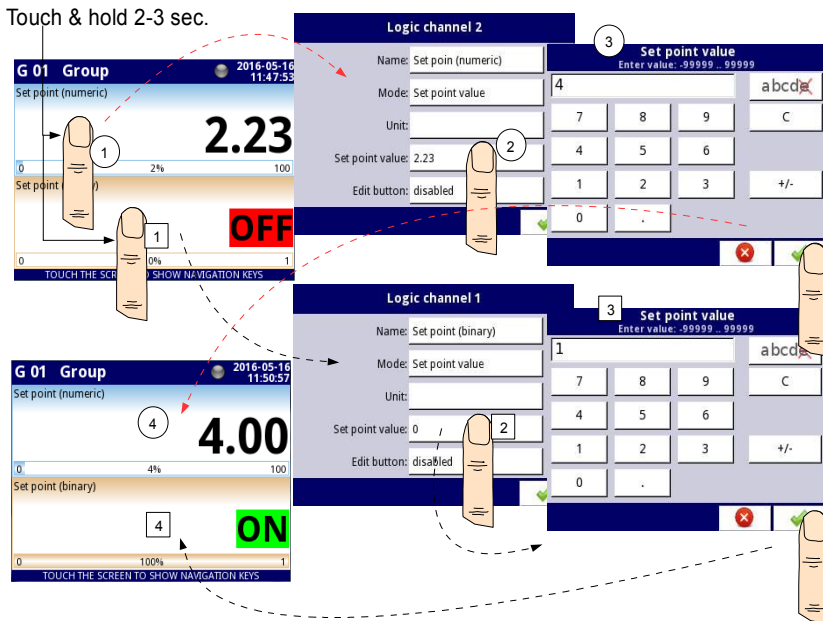

Fig. 7.55. Configuration of the value for Logical channel in **Set point value** for the disabled button
- **disabled** - the button is disabled on the display, in this case the data source of the logical channel will be the value set in the **Set point value** parameter, (see **Fig. 7.55**),